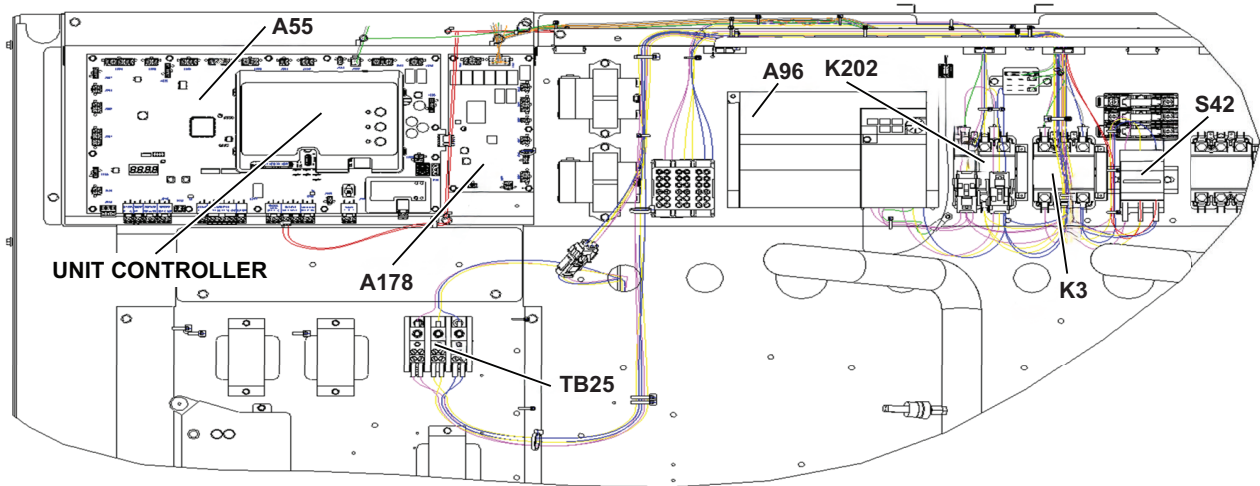

FIGURE 38
The supply air VFD (A96) is located near the compressors. See FIGURE 38.
- 4 - Locate the A55 Unit Controller. Refer to FIGURE 38.